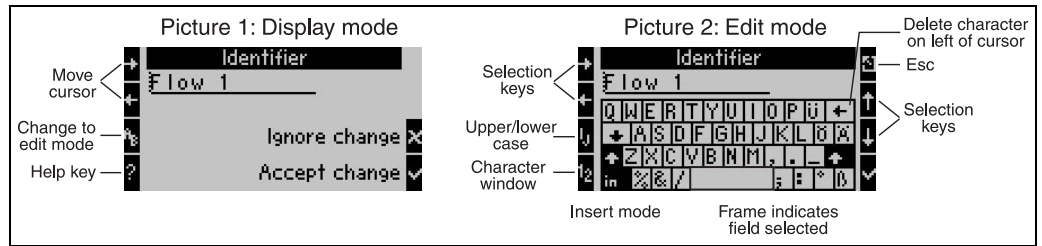

Fig. 17: Example: editing an identifier with the Palm keyboard
1. Using the cursor keys, place the cursor in front of the character before which another character should be entered. If the entire text should be deleted and rewritten, move the cursor completely to the right. (s. Abb. 17, graphic 1)
3. Use the ij/IJ and ½ key to select upper/lower case or numerals. (s. Abb. 17, graphic 2)
4. Use the cursors to select the key required and use the tick sign to confirm. If you want to delete text, select the key in the top right. (s. Abb. 17, graphic 2)
6. Press the Esc key to switch from the editing mode to the display mode and accept changes with the 'tick' key. (s. Abb. 17, graphic 1)
- The cursor cannot be moved in the editing mode (s. Abb. 17, graphic 2)! Use the Esc key to go to the previous window (s. Abb. 17, graphic 1) to move the cursor to the character which should be changed. Then confirm the AB key again.